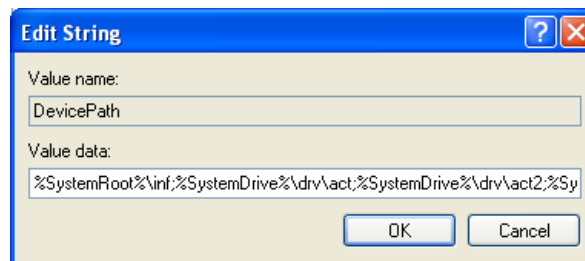

Figure 6-39 Edit String window in the Windows Registry Editor with the added device path string
4. Copy the entire contents of the DevicePath.txt file you created to the clipboard and paste after the existing data in the Value Data text box. The Value Data should now look like Figure 6-39.